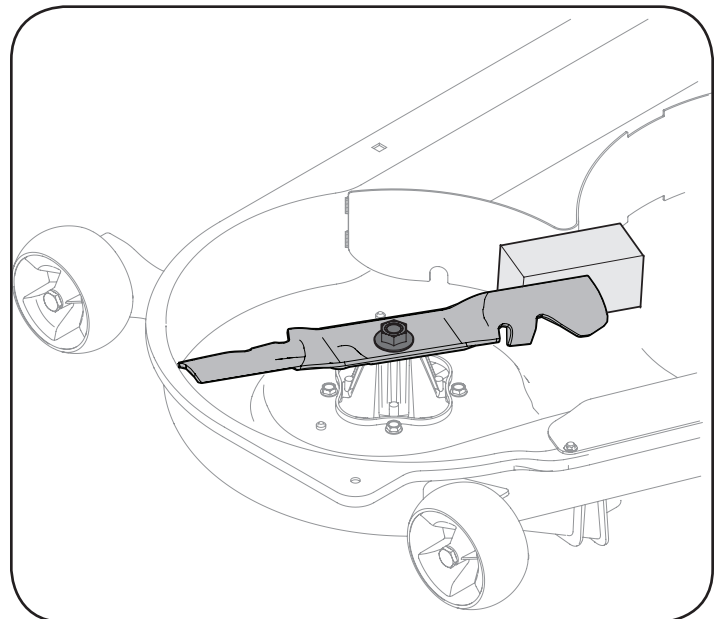

Figure 2
2. Stabilize one of the cutting blades with a blade lock tool or a block of wood. See Figure 2.